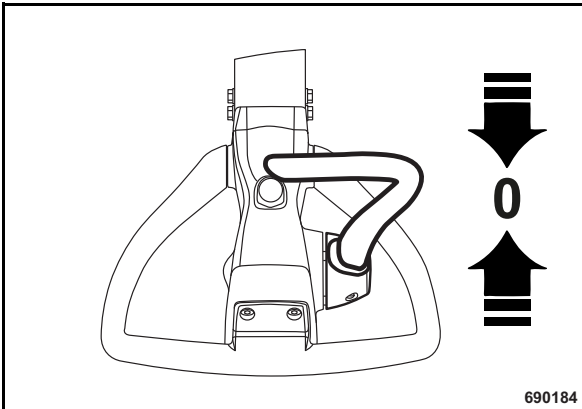

Fig. 16
- Shift the travel lever (Fig. 16) to position "0".